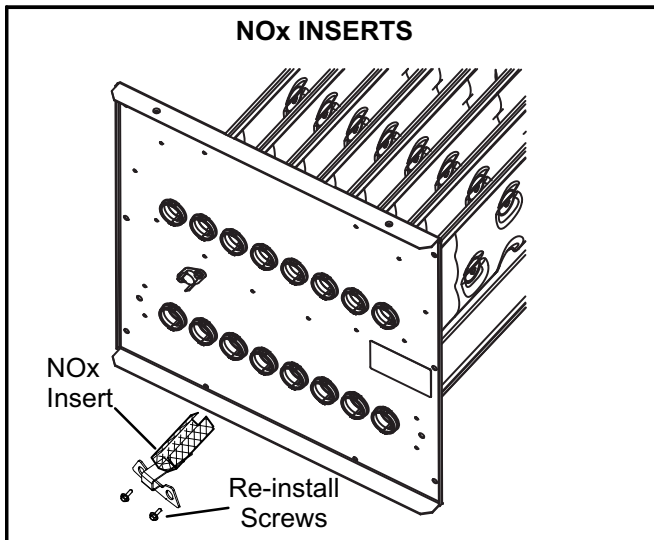

FIGURE 1
- 7 - **ML180(X), EL180(X) and 80AF1(X) NOx units being converted from natural to LP /Propane.**
- b - Remove the screw which secures each of the NOx inserts to the clamshell. **Remove the NOx inserts and reinstall the screw. See figure 1.**